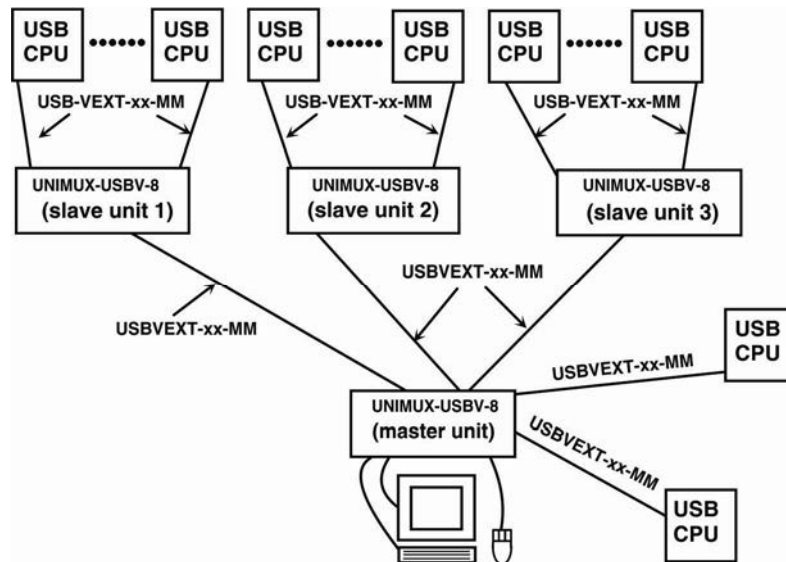
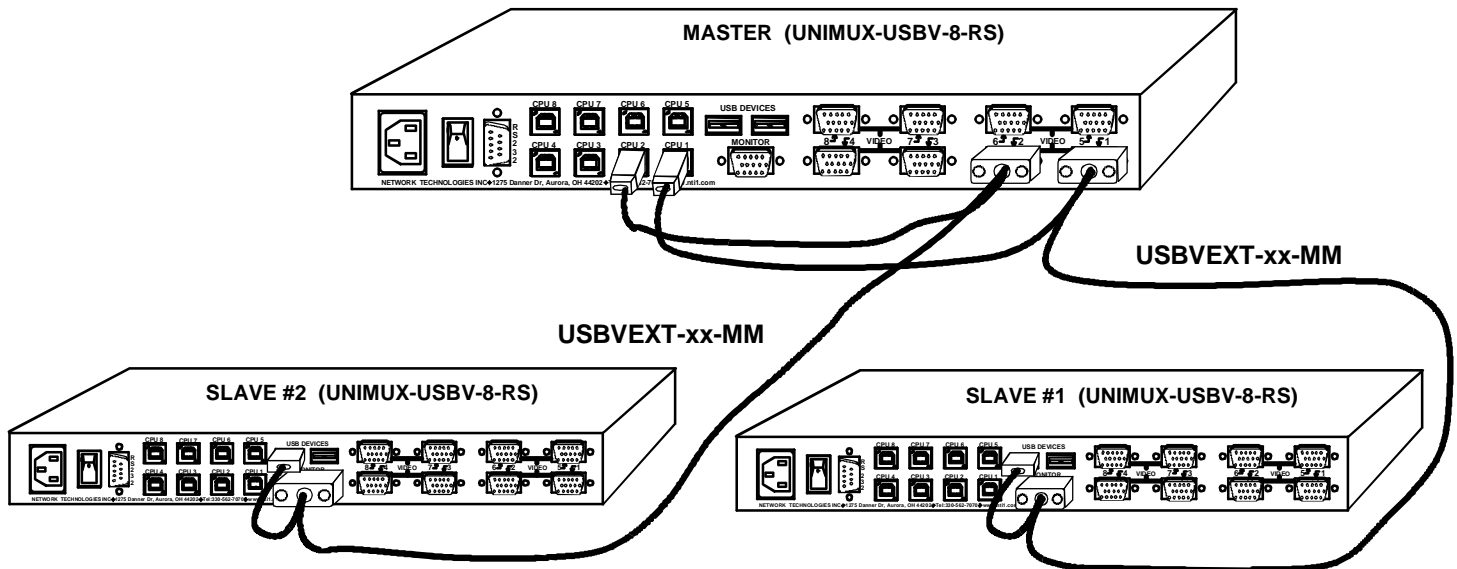

Figure 33- Connections for Cascading
Figure 35- Master-to-slave device cable connections- single-user switches
The UNIMUX-USBV-x USB KVM switch can be cascaded as shown in Fig. 33 below. Single user and multi-user UNIMUX switches may be connected downstream (see Figs.35 and 36). The first switch in a cascaded system is referred to as the "master", while all downstream switches are referred to as "slaves". The only additional hardware required to cascade switches is a set of device and monitor cables for each "SLAVE UNIT" (see MATERIALS on page 1). All CPUs and switches can then be controlled by users using OSD commands with Command Mode.
- Repeat step a. & b. for each additional slave, keeping in mind that each slave will connect to the next available master's port (i.e. Slave #2 to master's VIDEO 2 & CPU 2, etc.) See Fig. 35 on page 35.